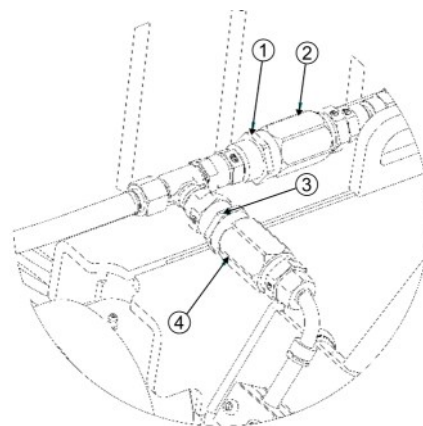

Fig. 13. Hydraulic system throttle valves
3. Loosen the lock nut (Figure 13 items 1 and 3).
4. Adjust the valves as needed (Figure 13 item 2- chassis cylinder, item 4 hitch cylinder). Adjustment is made by rotating the valve's outer sleeve. Rotation toward the lock nut will increase the amount of oil flowing through, and rotation away from the lock nut will decrease the amount of oil flowing through the valve.